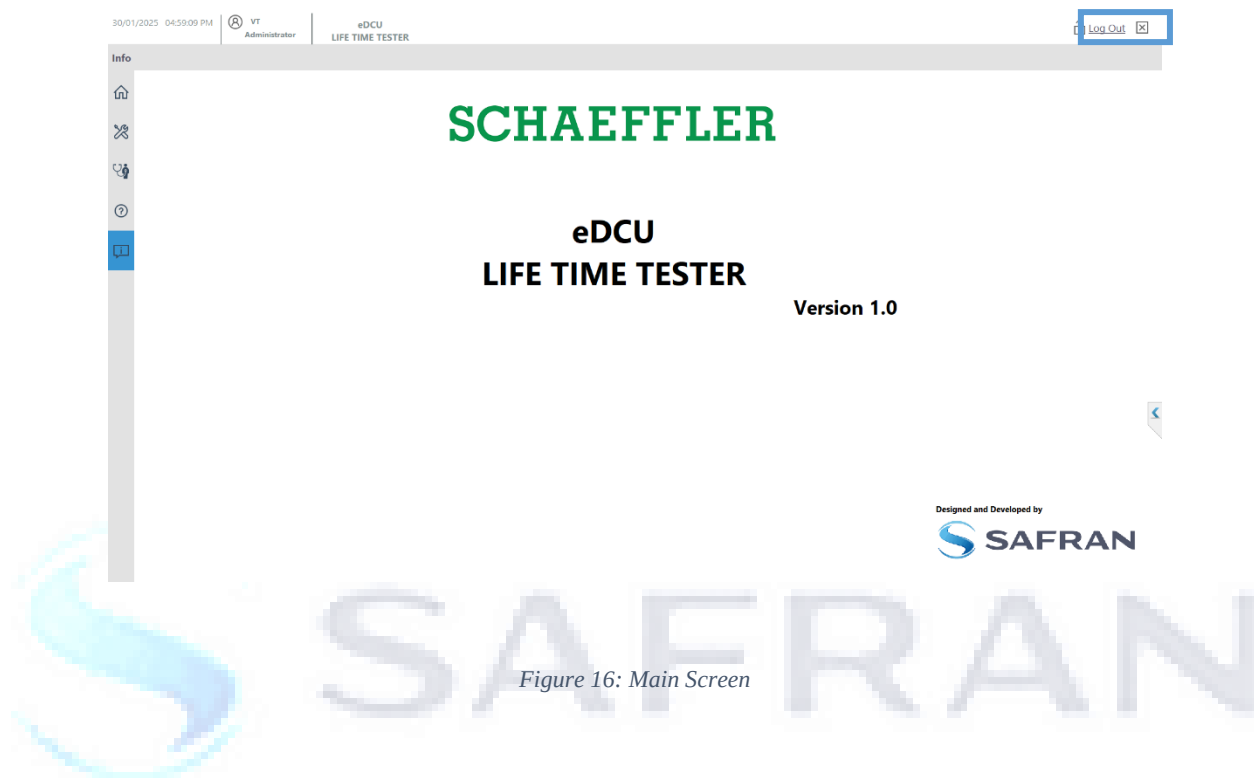
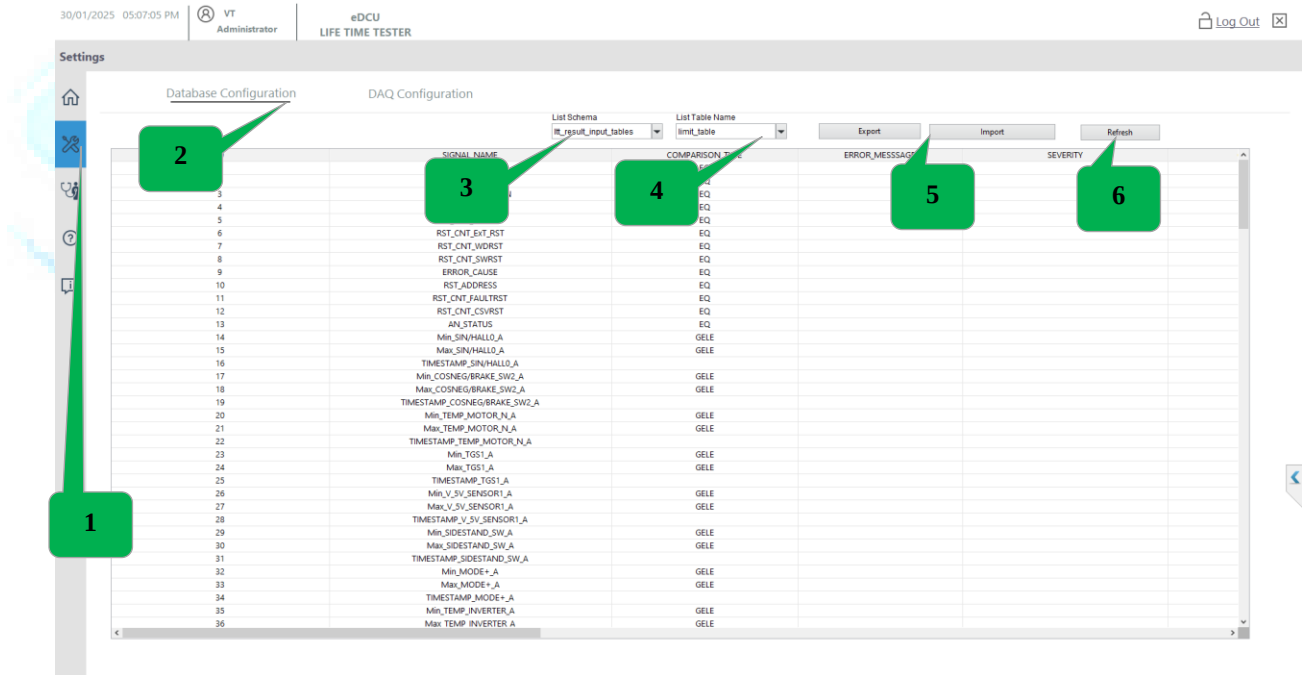

Figure 16: Main Screen
Figure 22: Settings Screen
Clicking the 'Settings' button from the main window (Fig. 16) will open the window shown below (Fig. 22). Select the schema and table names in the respective fields, then choose 'Import' or 'Export' to apply the changes. This module imports and exports data based on the selected schema and table files.
- 1) Click the Settings Screen button Refer the Fig 22.